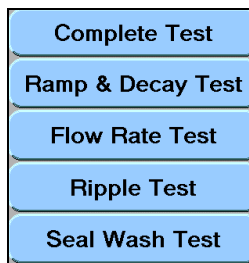

Figure 3
- 3.6. Select **Complete Test** from the Test Menu. See Figure 3.